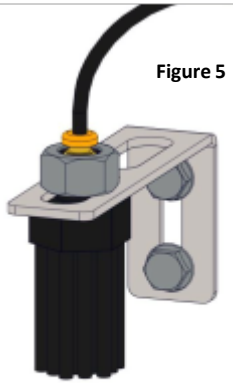

Figure 5
14. Route oil lines. Use push-to-connect fitting on top of brush to secure tubing. Verify that the line is fully seated into the bottom of the push-to-connect fitting. Tubing can be removed from push-to-connect fitting by pressing downward on orange ring. See figure 5
10. Route oil lines. Use push-to-connect fitting on top of brush to secure tubing. Verify that the line is fully seated into the bottom of the push-to-connect fitting. Tubing can be removed from push-to-connect fitting by pressing downward on orange ring. See figure 5